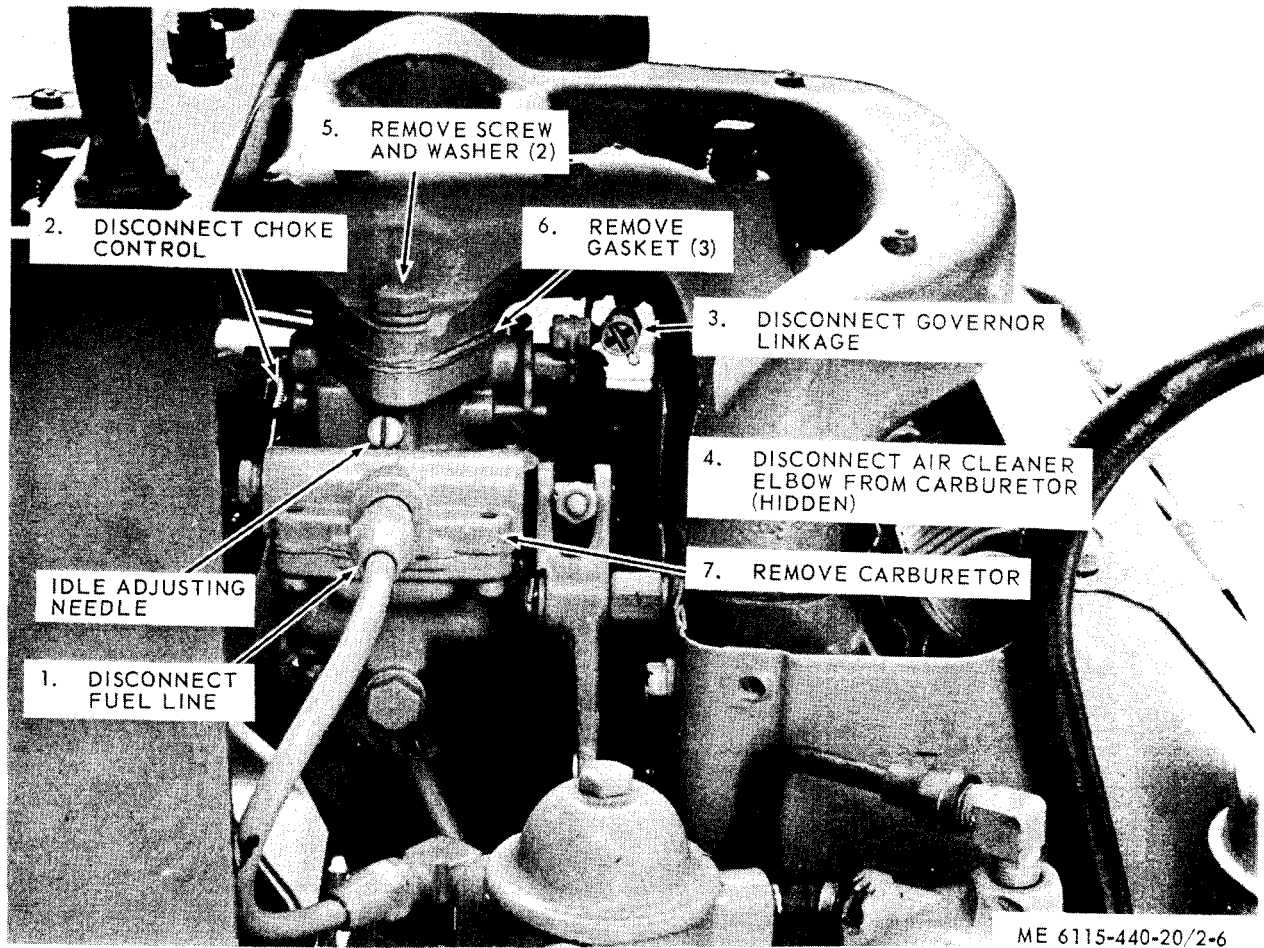

Figure 2-6. Carburetor, removal and installation.
b. Removal. Refer to figure 2-6 and remove the carburetor.
(1) Inspect the carburetor for damage or leaks.
(2) Inspect the choke control assembly for damage or broken cable. Replace a defective choke cable.
d. Installation. Refer to figure 2-6 and install the carburetor.